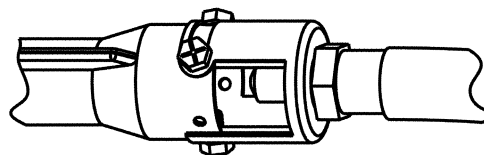

Figure 72 - Injector Holder On Outlet Burner Tube
2. Inspect burner, pilot and primary air inlet holes on injector holder for dust and dirt (see **Figure 72**).